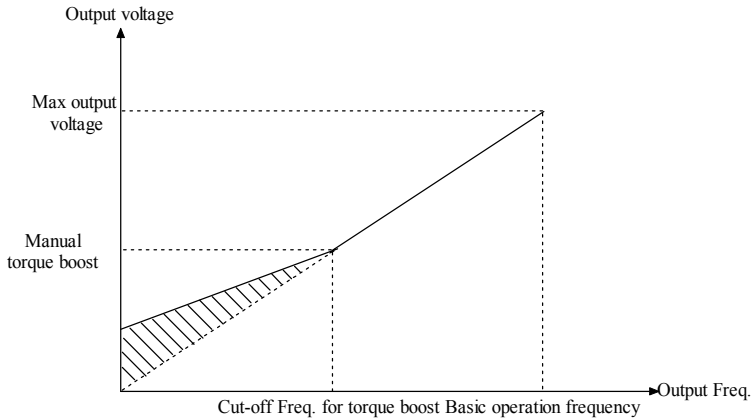

Fig. 5-9-3 Manual Torque Boost
- ◆ To improve the low-frequency torque characteristic, certain boost compensation can be made for the output voltage. When the function code is set as 0.0%, it is at the V/F control mode; when it is not set as 0, it is at the manual torque boost mode, as showed in Fig. 5-9-3.
- ◆ This function defines the cutoff frequency for manual torque boost as showed in Fig. 5-9-3. The cutoff frequency is applicable to any V/F curve determined by P9.00.